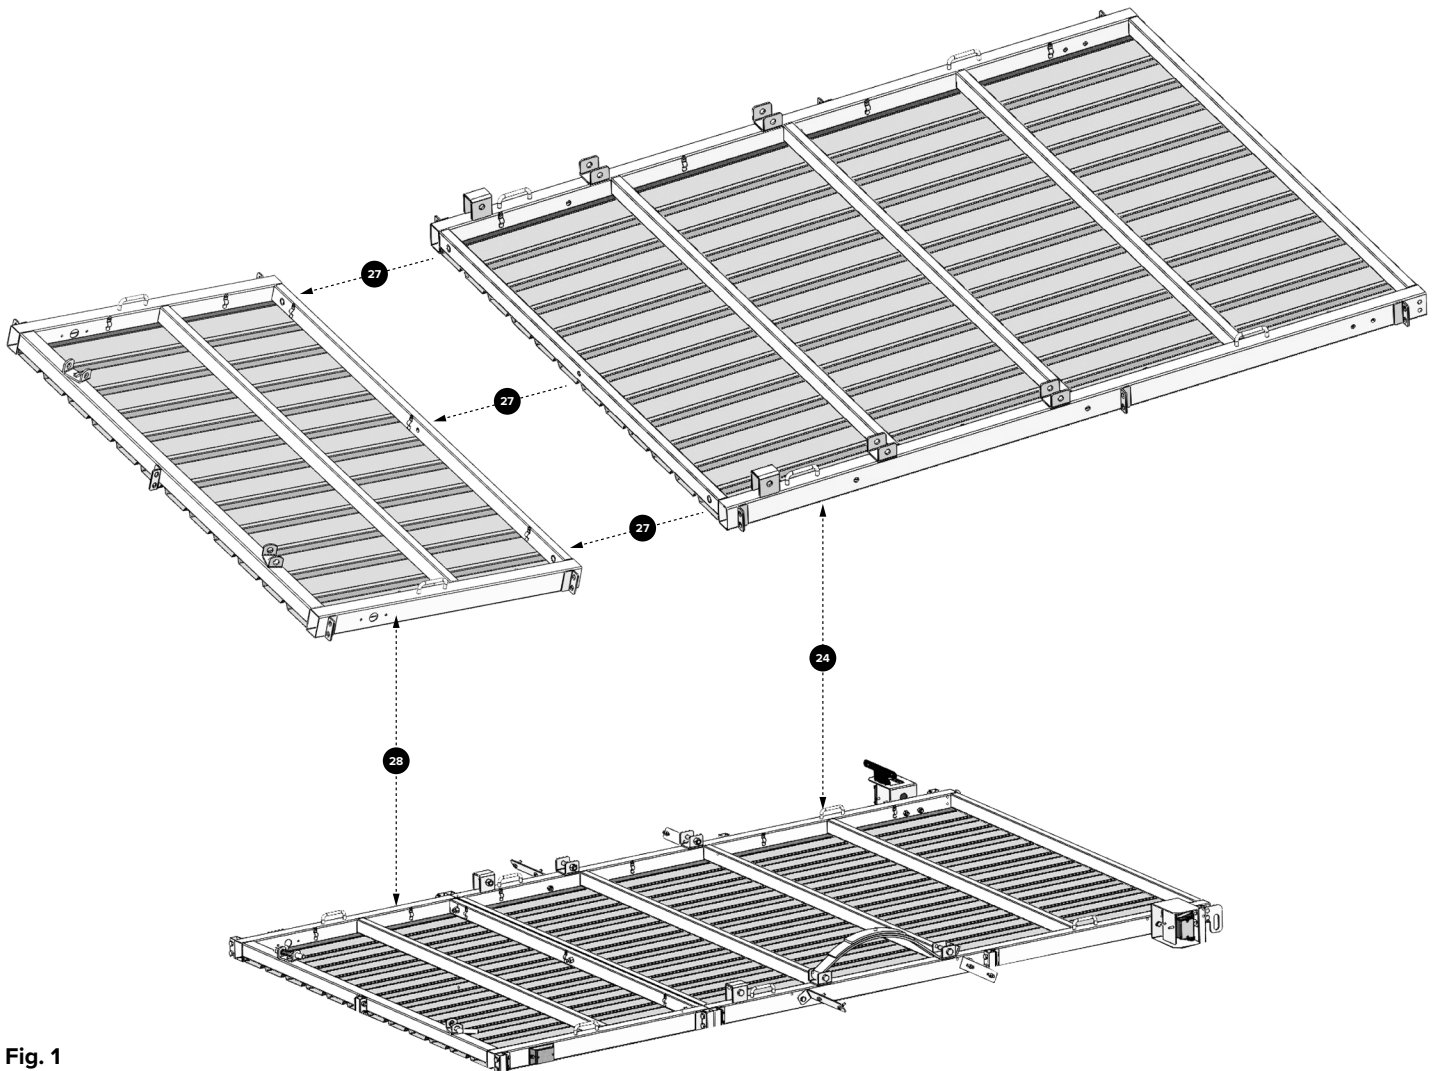

Fig. 1
1. Place the front (28) and rear (24) beds on the bench.
2. Use three (3) M12 x 80 bolts and nuts to connect both sections together. Do not tighten too much otherwise the upright rails (25, 29, 30) will be harder to assemble later on. (See Fig. 1)